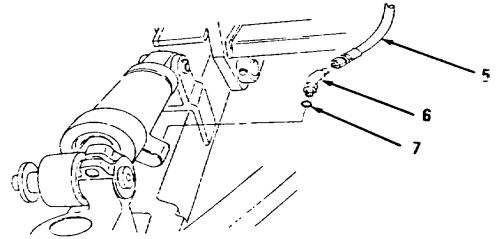
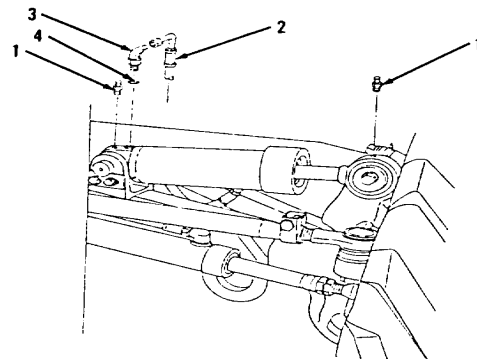

Figure 5-107.
Figure 5-106.
9. Install new preformed packing (7) and elbow (6, Figure 5-107).
10. Install hose assembly (5).
11. Install new preformed packing (4) and elbow (3, Figure 5-106).
12. Connect hose assembly (2).
13. Install two fittings (1). Add new grease. Refer to LO 5-3805-261-12.